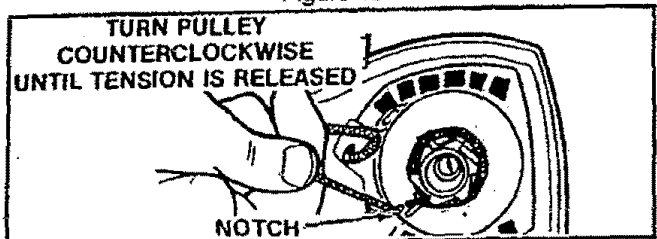

Figure 41
6. If the starter rope is not broken, release the spring tension by pulling about 10 inches of rope from the pulley and catch the rope in the notch as shown. Figure 41.
15. Wrap rope counterclockwise around pulley ratchet and tuck loose end back under rope leaving a 3/8 to 3/4 inch tail laying in the rope groove. Figures 41 & 42.